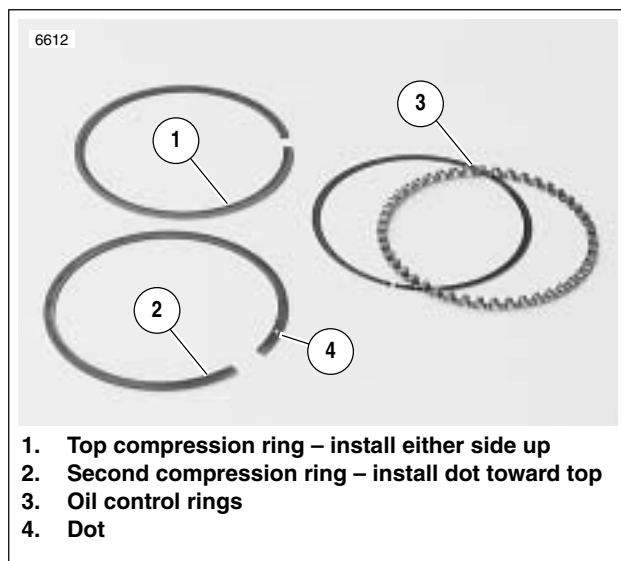

Figure 3-75. Piston Rings
See Figure 3-75. Piston rings are of two types: compression and oil control (3). The top (1) and second (2) compression rings are positioned in the top and second upper piston ring grooves. The dot (4) on the second compression ring must face upward. Ring sets are available to fit standard and over-size pistons.